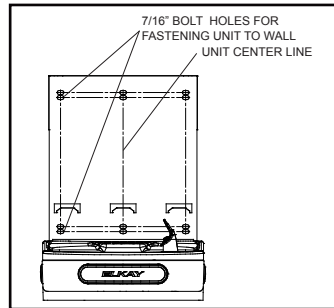

Figure 2
4. Install wall mounting plate to wall using six (6) 7/16" oval mounting holes (mounting bolts not included) (See Fig. 2). Use appropriate fasteners for your wall type.